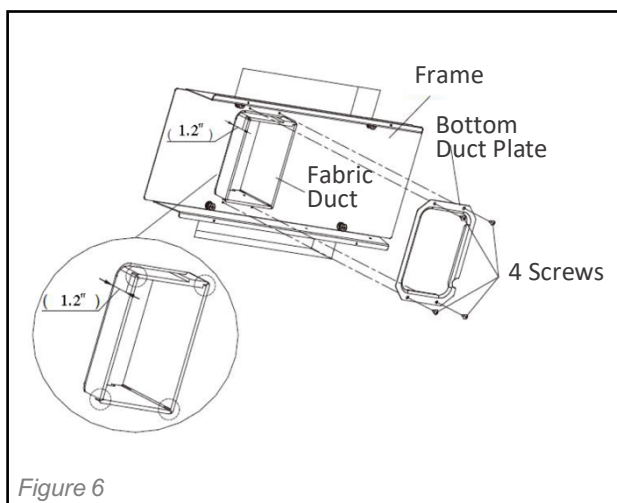

Figure 6
6. Set of installation the fabric air plate duct sub-assy into and duct cut opening off four corner of fabric air duct. Because the thickness of vehicle top is different, the distance between the opening and the installation plate sub-gassy is shown in *figure 6*.
7. Fasten-the bottom each duct side plate of the to fabric the ceiling duct assembly with fitting frame with 4 screws (see *Figure 6*). Trim any excess fabric that may extend beyond edge of bottom duct plate.